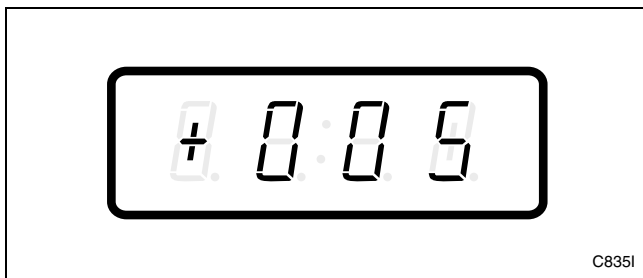

Figure 27
3. Press the LOW TEMP (+) or the NO HEAT (-) keypad to scroll through the programmable options until “+005” appears in the VFD. Refer to *Figure 27*.